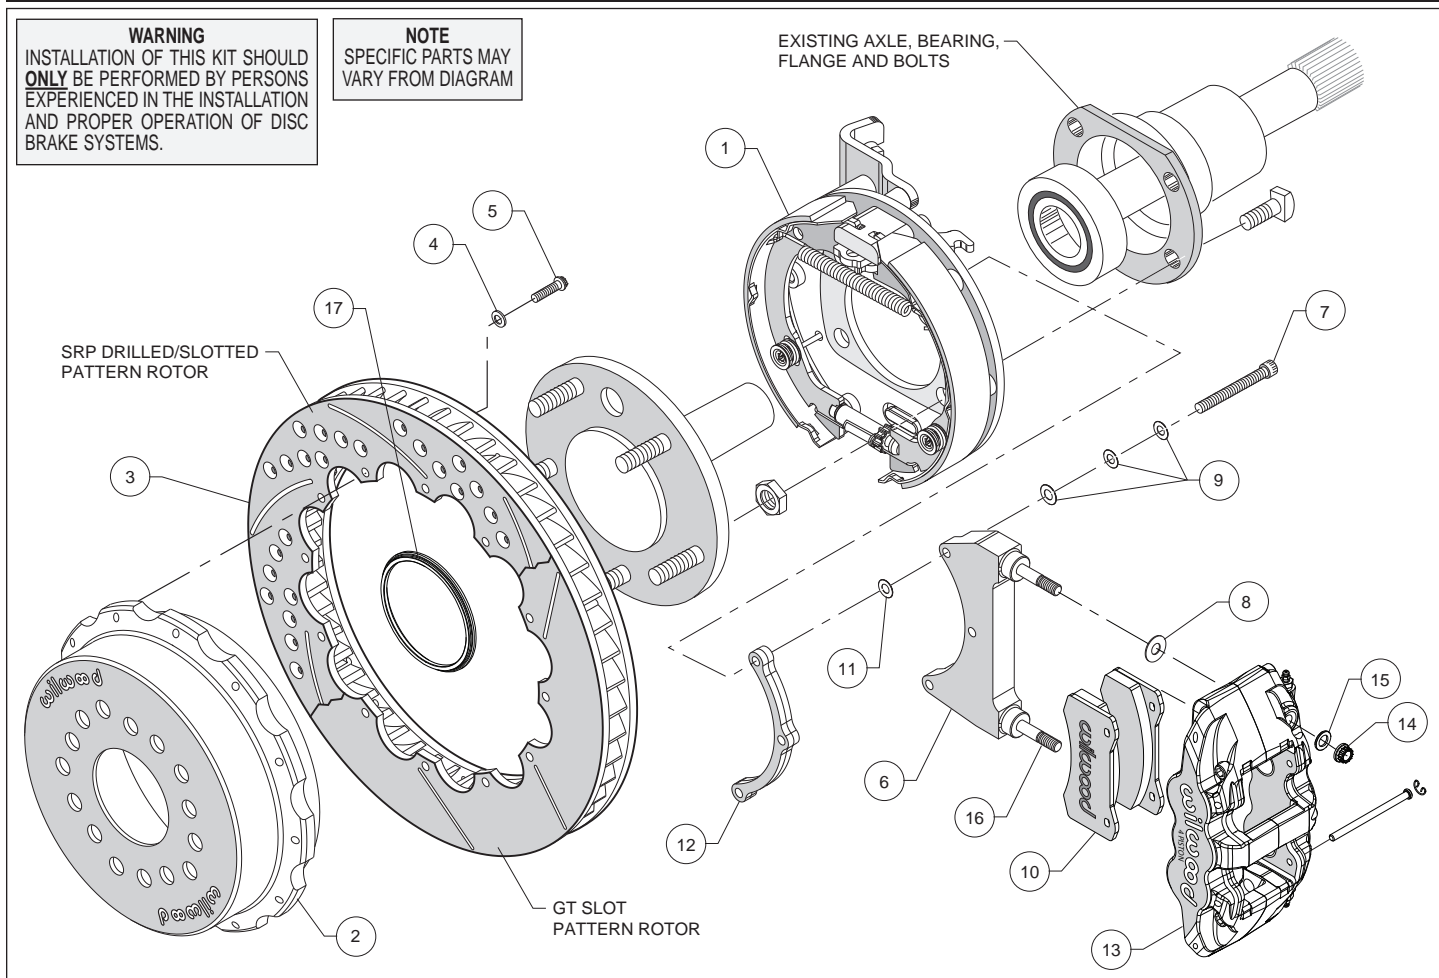

Figure 1. Typical Installation Configuration
- Slide the rotor registration adapter (17) onto the axle register on the axle flange with the smaller O.D. facing toward the rotor/hat (2). Align the correct hole pattern in the hat with the stud pattern on the axle flange. **NOTE:** *Some OEM and aftermarket axles come with stud sizes larger than 0.50" diameter.* Verify stud size and have a qualified machine shop drill the hats to the correct size, if necessary. Slide the hat/rotor assembly (2 and 3) over the wheel studs covering the bracket kit assembly (1) and against the axle flange face. Check to be sure the hat seats squarely against the hub. Install three lug nuts (finger tighten) to keep the rotor/hat assembly in place while continuing with the installation.
- **NOTE:** *Please reference the caution statement at the beginning of the assembly instructions.* The caliper mounting bracket assembly (6) should be installed first with clean, dry threads on the mounting bolts (7). Install the bracket from the rear side of the bracket kit assembly (1) by sliding bolt (7) through three flat washers (9), bracket (6), shim washer (11) and finally through the spacer (12), see Figure 1. **NOTE:** *End of bolt should not exceed inside face of insert. The bracket must tighten squarely against the back side of the bracket kit assembly (1).* Inspect for interference from casting irregularities, machining ridges, burrs, etc. Use one thin shim (11) between the bracket (6) and spacer (12) during initial trial fitting.
- Lubricate caliper mounting studs and nuts with lightweight oil. Install one shim (8) over each pre-installed stud (16) on the radial mount bracket (6). Slide the caliper (13) in place over the studs and rotor, then install the washer (15) and lock nut (14) to hold the caliper in place. The caliper bleed screws should be pointing up. Snug the lock nuts (14) and check that the rotor (3) is centered in the caliper (13). Add or subtract .015" shims (11) as necessary between the caliper mounting bracket (6) and the spacer (12) to center the caliper (13).
- Remove the two pad retaining pins from the caliper (13) by carefully popping out the pin retaining clips and sliding out the pins. Insert the brake pads (10) into the caliper from the bottom, Figure 1. With the friction material facing the rotor, secure the brake pads in place with the pad retaining pins and clips. Reinstall the caliper onto the caliper mounting bracket and temporarily tighten the lock nuts. Check that the top of the brake pad is flush with the outside diameter of the rotor. If not, adjust by adding or subtracting shims (8) between the caliper and the bracket.
- Adjust the parking brake shoes outward (using a drum shoe adjustment tool available at your local auto parts store) while spinning the hat (2) until a slight drag is felt against the hat/drum. Remove the lug nuts that were holding the hat/rotor in place. Install the wheel and lug nuts. Check to see that the wheel rotates freely without interference.
- Once all clearances have been checked, remove the wheel, caliper, hat/rotor from the bracket kit assembly (1). Secure the caliper mounting bracket (6) to the bracket kit assembly (1) using red *Loctite*[®] 271. Torque bolts (7) to 180 **in-lb**. Reinstall the hat/rotor assembly and again use lug nuts to hold it in place. Reinstall the caliper, torque the caliper nuts (14) to 47 ft-lb.
- **NOTE:** *Clevis and cable kits which attach to the parking brake assembly are not included in the Wilwood parking brake kit.* Wilwood offers a generic style parking brake cable kit, P/N 330-9371 for this application which can be ordered separately from your local Wilwood dealer or by calling Wilwood customer service at (805) 388-1188.